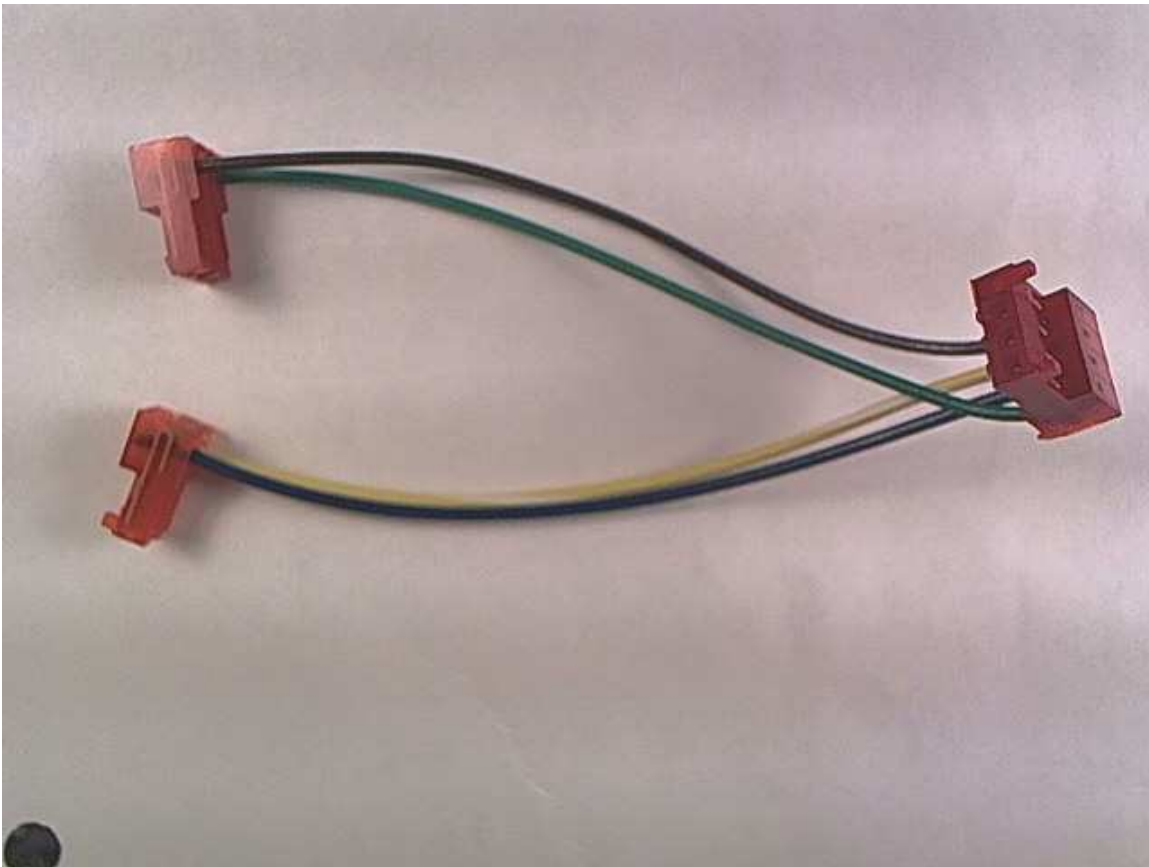

Figure 1.4: AT-AUTO_(tm) Meter Wiring Harness
- Locate the the meter wiring harness shown in Figure 1.4 and mate the 2-Pin and 3-Pin plugs with the respective 2-Pin and 3-Pin connectors on the Peak – Hold PCB.